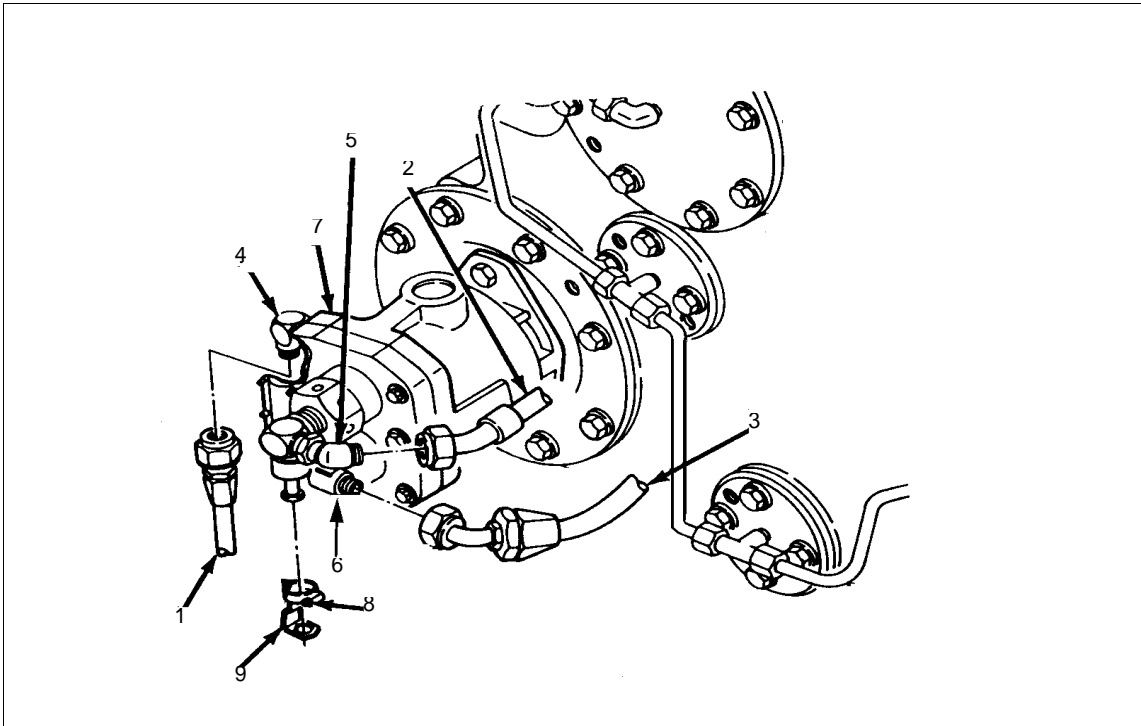

Figure 1-12. Disconnecting the piston pump
a. Refer to Figure 1-12 and disconnect the piston pump using the following steps:
- Loosen the screw (8) on the clamp (9), and remove the clamp from the pump (7).
a. Refer to Figure 1-12, page 1-13. Install the clamp (8) on the pump (7).
d. Refer to Figure 1-12, page 1-13, and install the piston pump using the following steps: